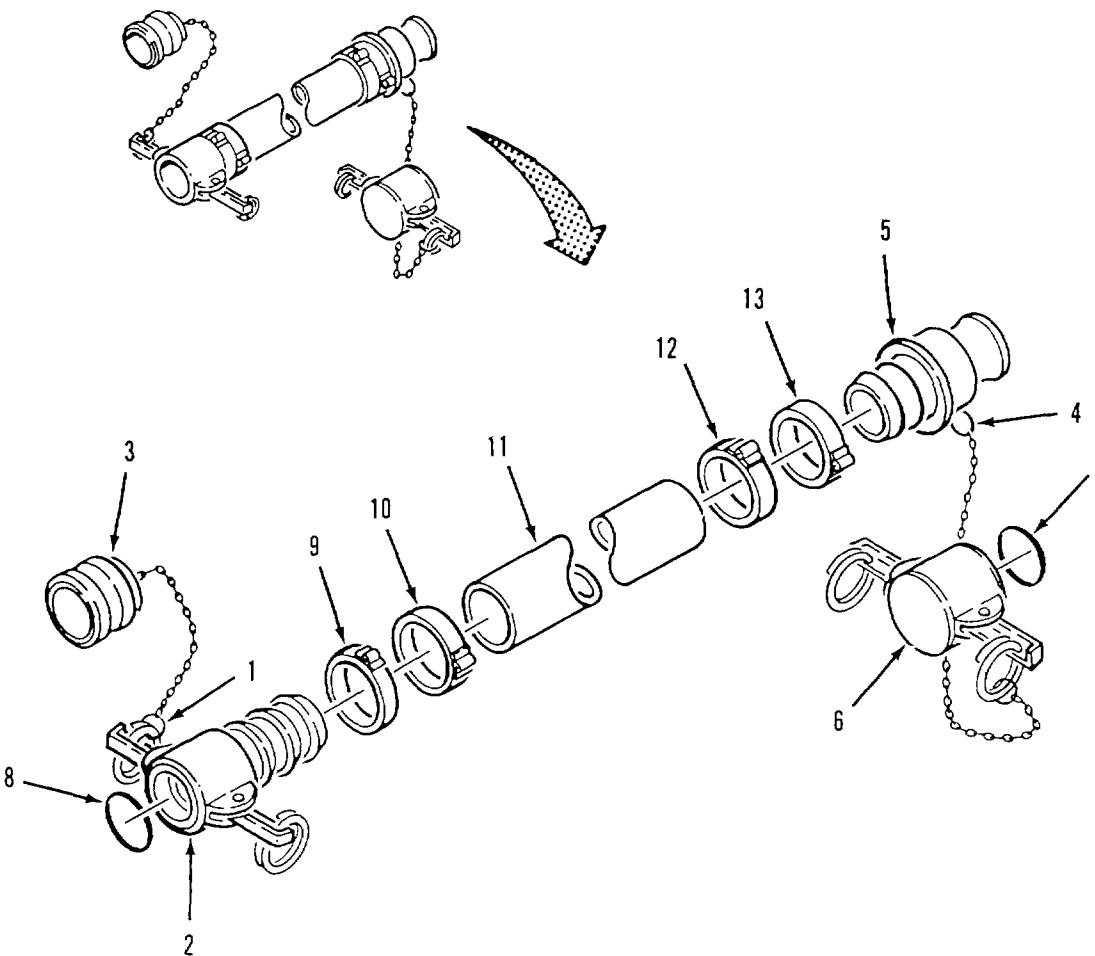

Figure 4-2. Discharge and Suction Hose Disassembly.
- a. Disassembly. Refer to figure 4-2.
- (1) Disconnect split ring (1) from female coupling (2) and remove dust plug (3).
- (2) Disconnect split ring (4) from male coupling (5) and remove dust cap (6).
- (3) Remove gasket (7) from dust cap (6)
- (4) Remove gasket (8) from female coupling (2).
- (5) Cut strapping (clamps) (9 and 10) from hose (1). Pull female coupling (2) from hose.
- (6) Cut strapping (clamps) (12 and 13) from hose (11). Pull male coupling (5) from hose
- c. Inspection. Refer to figure 4-2
- (1) Inspect female coupling (2) and dust cap (6) for cracks, corrosion, and damaged locking arms.
- (2) Inspect male coupling (5) and dust plug (3) for cracks and corrosion.
- (3) Inspect hose (1) for cuts, tears, punctures, delamination.
- (1) Push male coupling (5, figure 4-2) and female coupling (2) into hose (11).